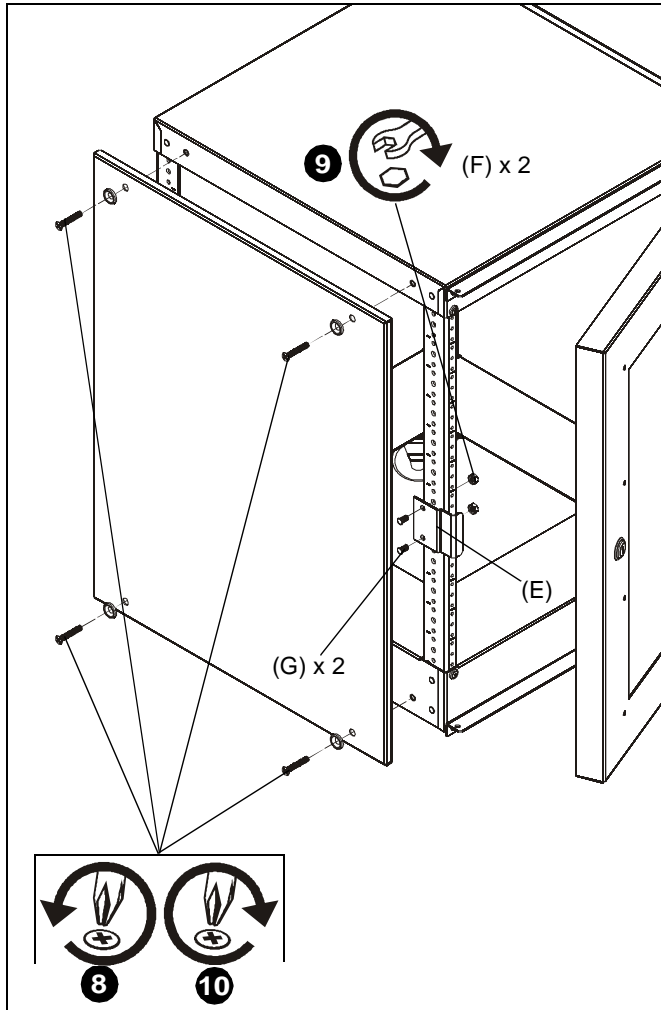

Figure 4
8. Remove side panel from GRFWS-RK rack on side of rack where the lock bracket (E) will be installed by removing screws and rack washers holding side panel to rack. (See Figure 4)
9. Use two 1/4-20 x 1/2" studs (G) and two 1/4-20" lock nuts (F) to secure lock bracket (E) to rack. (See Figure 4)
10. Use removed screws and rack washers to reattach side panel to rack. (See Figure 4)